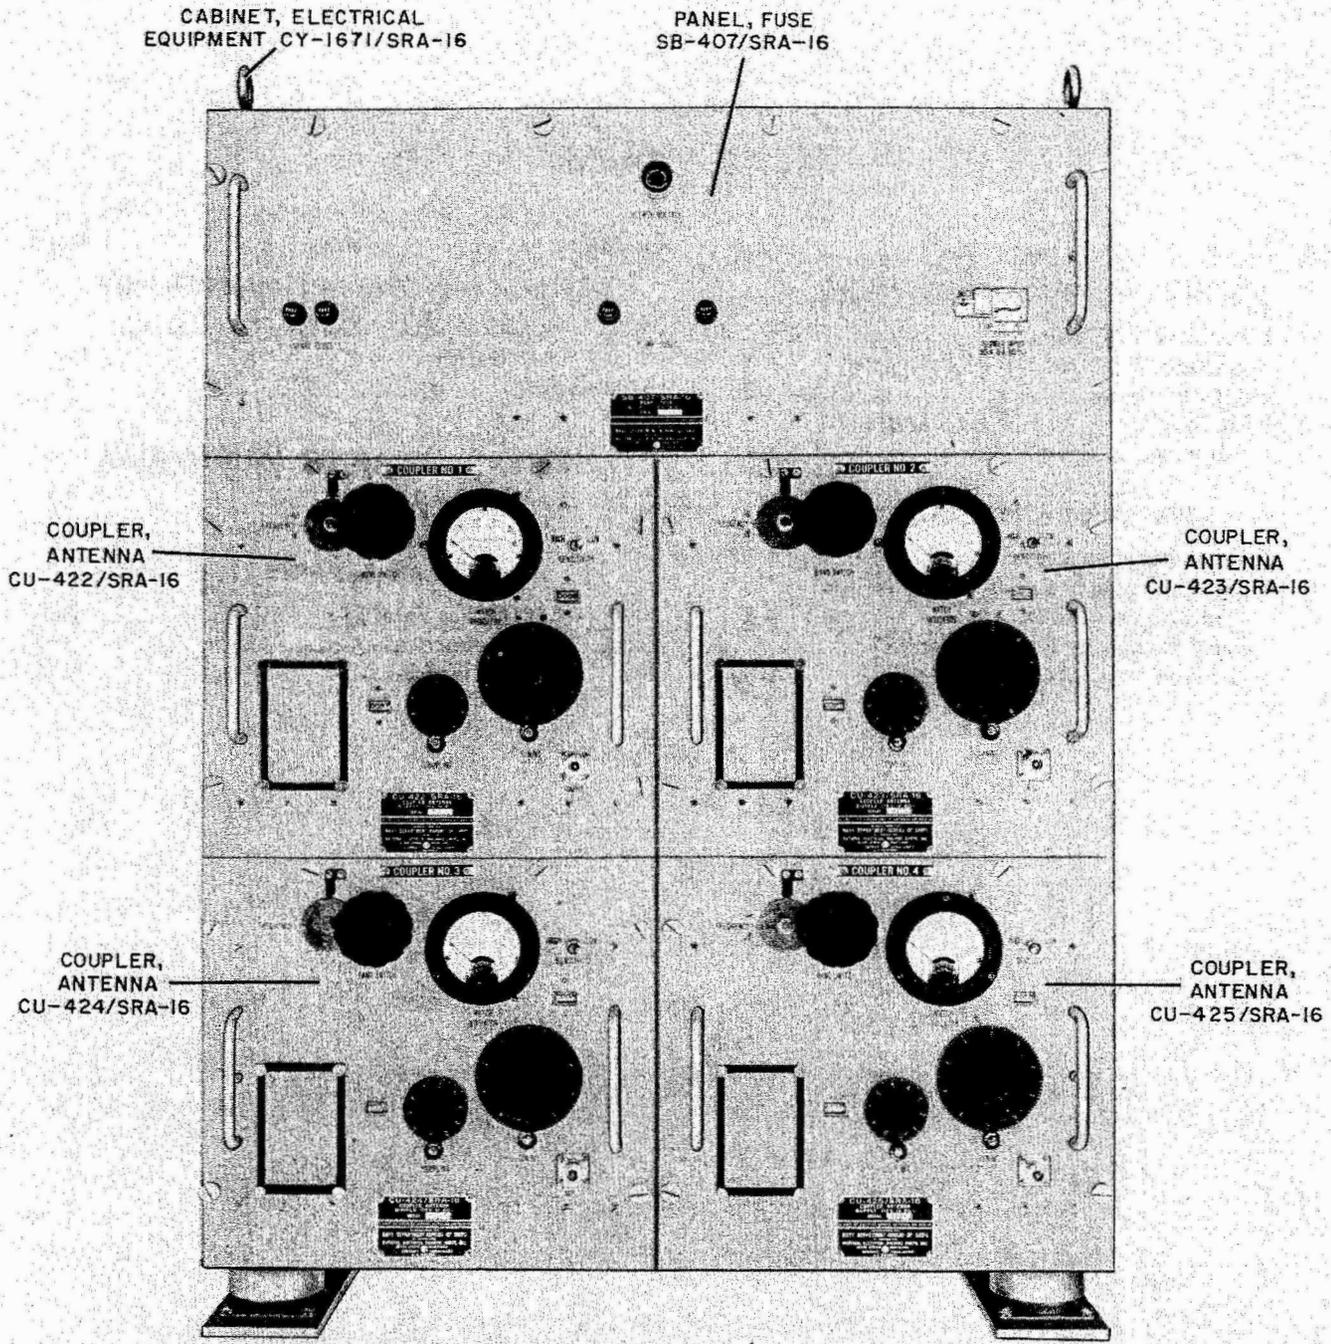

Figure 1-1. Antenna Coupler Group AN/SRA-16
This instruction book covers the description, theory, installation, operation and maintenance of Antenna Coupler Group AN/SRA-16. (See figure 1-1.)
a. GENERAL INFORMATION.—Antenna Coupler Group AN/SRA-16 consists of six major units as shown in figure 1-1. Nomenclature and pertinent data are listed in Table 1-1 covering Equipment Supplied; Table 1-2 covers Equipment Required But Not Supplied; and Table 1-3 lists Shipping Data. Reference data is listed in paragraph 5.
b. EQUIPMENT DESCRIPTION.—Each Antenna Coupler Group AN/SRA-16 consists of a group of assemblies contained in Electrical Equipment Cabinet CY-1671/SRA-16 and mounted on three decks as follows: Fuse Panel SB-407/SRA-16 is located in the top deck; COUPLER NO. 1 is located in the middle left deck, and COUPLER NO. 2 is located on the middle right deck; COUPLER NO. 3 is located on the bottom left deck, and COUPLER NO. 4 is located on the bottom right deck (See figure 1-1). The couplers are identical as to function, size, weight, and electrical characteristics. Each of the couplers is built as a plug-in drawer assembly which differ slightly according to location of plug-in connections determined by cabinet drawer location. Tuning is accomplished by means of two variable controls which may be locked at the desired dial setting. Two mechanical counters are connected to the controls to indicate control settings. A three-position band switch provides selection of one of three tunable frequency bands, and a microammeter mounted on the front panel is the indicator for the Match Indicator circuit. Fuse Panel SB-407/SRA-16 is also built as a drawer assembly, but not of the plug-in type. It supplies primary power and blower operation indication by means of an indicator lamp.
a. COUPLER, ANTENNA CU-422/SRA-16.—Antenna Coupler CU-422/SRA-16 (figure 1-1) is one of four similar couplers used in Antenna Coupler Group AN/SRA-16. It operates over a frequency range of 9 to 26 mc, and consists of an individual plug-in drawer assembly designated as COUPLER NO. 1, located on the middle left deck of Electrical Equipment Cabinet CY-1671/SRA-16.
f. CABINET, ELECTRICAL EQUIPMENT CY-1671/SRA-16.—Cabinet, Electrical Equipment CY-1671/SRA-16, as shown in figure 1-1, consists of a steel cabinet with a top deck and four lower rectangular-
shaped compartments, two on the lower right side and two on the lower left side. The top shelf, which houses the blower unit and air filters, is enclosed in the front by Panel, Fuse SB-407/SRA-16. The four lower compartments house the four antenna couplers. As the four couplers are not interchangeable, they must be arranged numerically in the positions indicated by figure 1-1. Extending vertically through the inside rear of cabinet is the ventilating duct which connects the blower unit in the upper deck with a blower outlet in each of the four lower compartments. Louvres are provided on both sides and rear of the cabinet for blower intake and outlet. Extending horizontally through the rear right half of the cabinet is the coaxial line from the broadband antenna. This coaxial line extends from the receptacle marked OUTPUT on the right hand side of the cabinet to the octagonal outlet box in the rear of the cabinet where connection is made to the plug-in connectors for the four couplers. Four shock mounts are provided for deck or bench mounting. Four eye bolts are provided at the top of the cabinet for insertion of lifting bars for moving the cabinet, preferably with all drawer assemblies removed. Two sway-mounts are provided at the top rear of the cabinet.